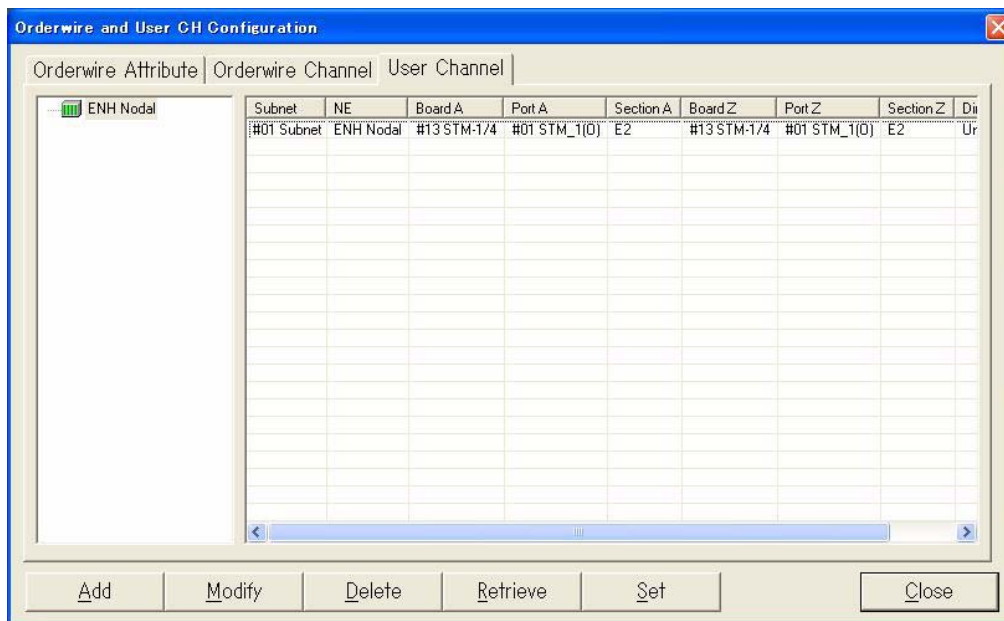

Fig. 4-6-8 Orderwire and User CH Configuration Dialog Box (User Channel Setup tab)
- 4 Click the **User Channel** tab. *Fig. 4-6-8* shows an example: